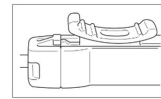

Figure 9: Slider Contacting Distal Stop
- The device includes a distal stop for the suction vent slider. When the slider has reached the distal stop, the irrigation spray head is unobstructed and irrigation may still be performed (Figure 9).